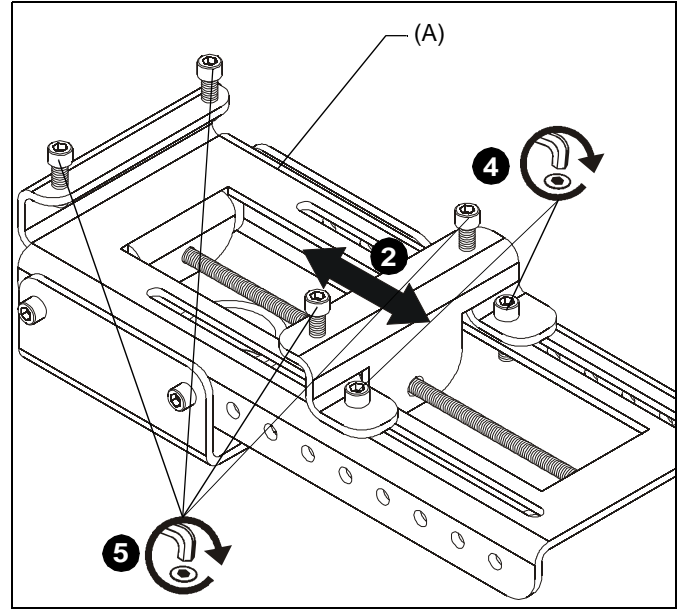

Figure 3
5. Using 1/4" hex key (D), securely tighten top four clamp screws. (See Figure 3)